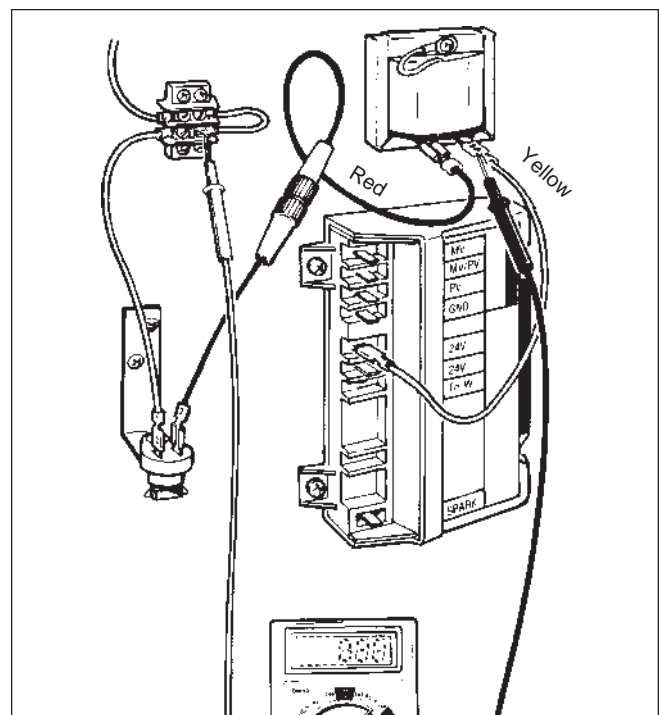

Figure 37. Testing the fusible link.
2. Touch the voltmeter lead to the lower terminal on the terminal block (see Figure 37).